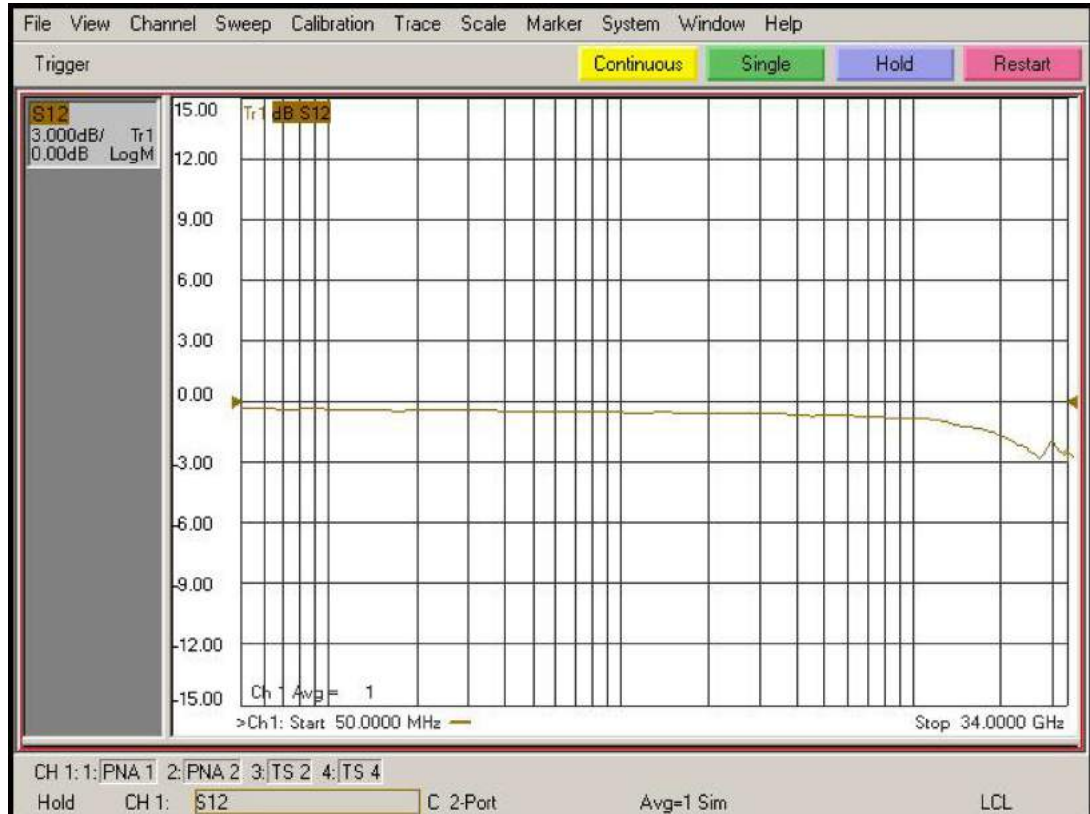

Figure 64 De-embedded “Vin” trace
- 8 Trigger VNA to perform a single sweep. a. Press "Trigger" under Channel Setup, and then the green soft-key for "Single". Display should look like **Figure 64**. If it looks noticeably different, the probe tip wires may not be making contact under the pinchers.